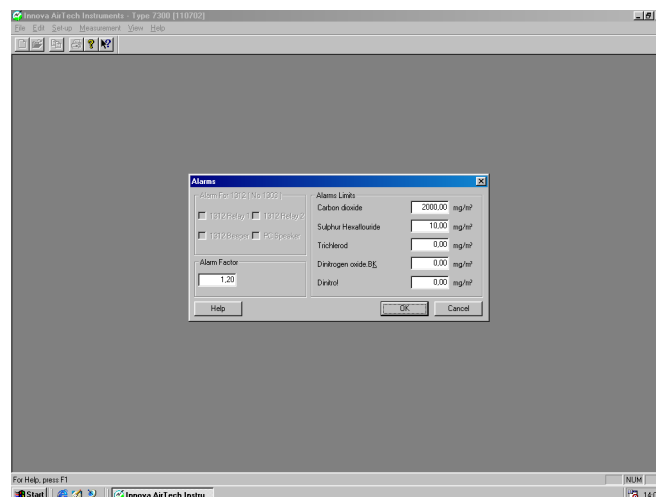

Fig. 4.9 The Alarms dialogue
1. Pull down the **Set-up** menu and click on **Alarms**. The Alarms dialogue is displayed, Fig.4.9.